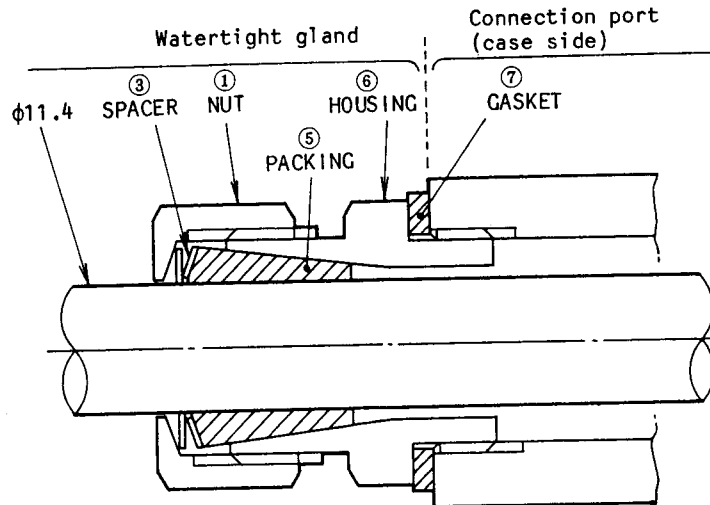

Figure 5-7. Structure of Watertight Gland
To use the converter as a watertight unit, use watertight gland kits for the cable inlet\outlet. An exploded view of the watertight gland kit is shown in Figure 5-8. Pass the parts onto the cable in the order shown in Figure 5-7 and then tighten the gland. When Yamatake Corporation standard cable is used, packing ④ is not required and you should eliminate it.